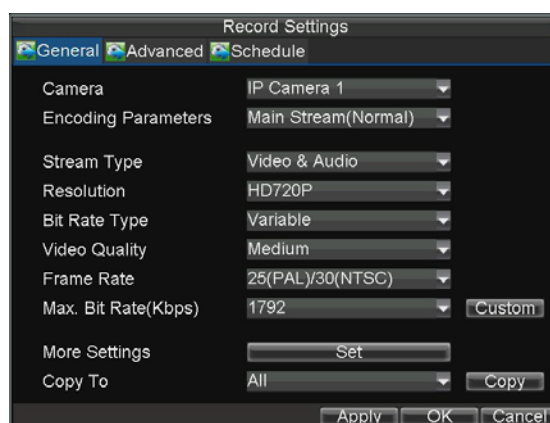

Figure1. General Record Settings
1. Click Menu > Settings > Record to access the Record Settings dialog box, shown in Figure 1.